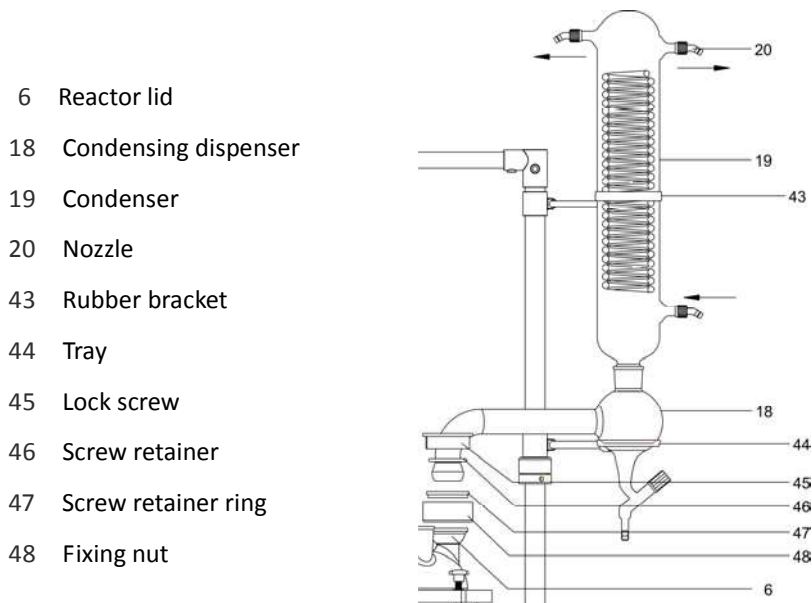

Figure 2.2.6.2 RE-610 Condensing unit installation
Place the tray (44) on the frame, put the condensing dispenser (18) on the tray (44). Connect the condensing dispenser (18) and the reactor lid joint, adjust the position of tray (44), tighten the fixing screw (45) and fixing nut (48). Put the condenser (19) on the upper joint of the condensing dispenser (18), the rubber bracket (43) is locked around the upper portion of the condenser (19), please see figure 2.2.6.2.